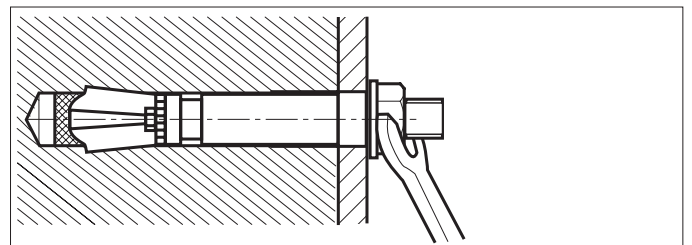

Fig. 5
- ⇒ Tighten both nuts with 30 Nm (Fig. 5).